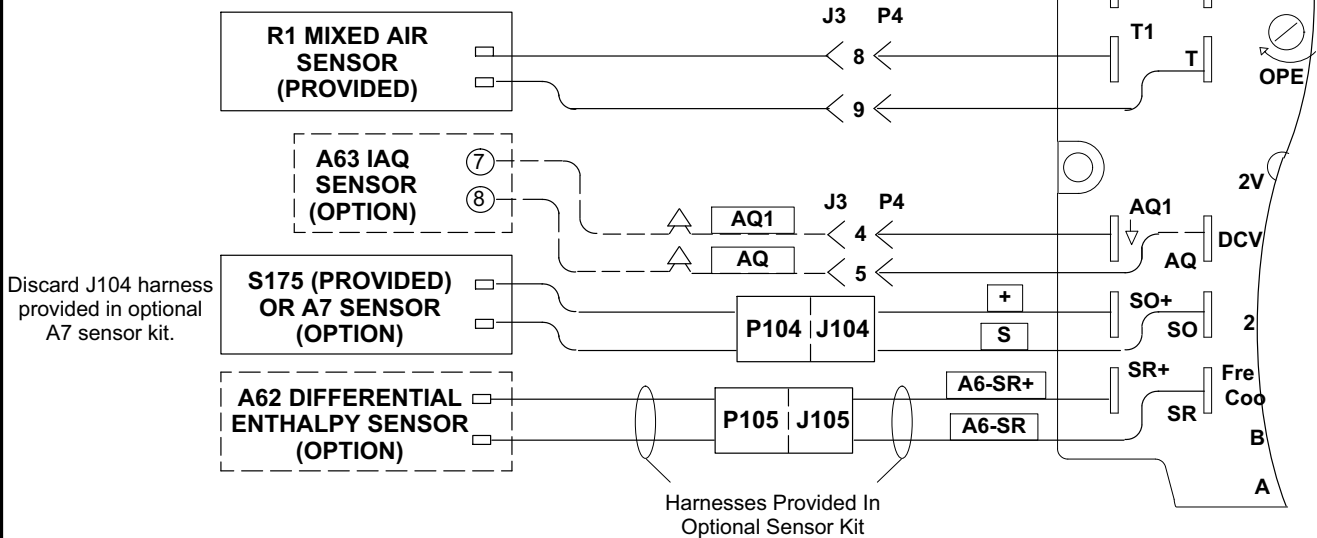

FIGURE 9
- 1- Connect any optional sensors as shown in figure 9.